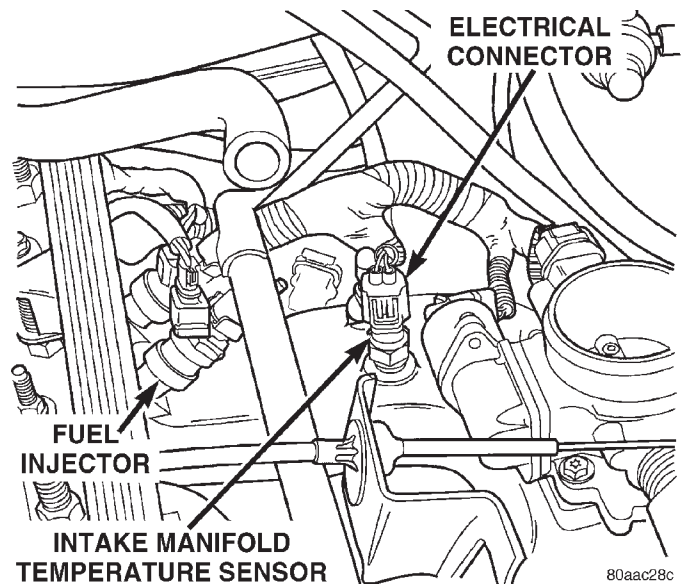

Fig. 19 Intake Manifold Air Temp. Sensor Location—2.5L Engine
(6) Verify that generator output wire, generator connector and ground wire are firmly connected to the generator.
(7) Inspect system body grounds for loose or dirty connections. Refer to Group 8, Wiring for ground locations.
(8) Verify Crankcase Ventilation (CCV) operation. Refer to Group 25, Emission Control System for additional information.
(9) Inspect fuel tube quick-connect fitting-to-fuel rail connections.
(10) Verify that hose connections to all ports of vacuum fittings on intake manifold are tight and not leaking.
(11) Inspect accelerator cable and transmission throttle cable (if equipped). Check their connections to throttle arm of throttle body for any binding or restrictions.
(12) If equipped with vacuum brake booster, verify that vacuum booster hose is firmly connected to fitting on intake manifold. Also check connection to brake vacuum booster.
(13) Inspect air cleaner inlet and air cleaner element for dirt or restrictions.
(14) Inspect radiator grille area, radiator fins and air conditioning condenser for restrictions.
(15) Verify intake manifold air temperature sensor wire connector is firmly connected to harness connector (Fig. 19) or (Fig. 20).